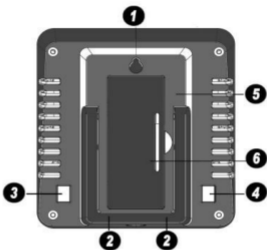

Figure 2
2. Remove the battery door on the back of the display, as shown in Figure 2. Insert one AA (alkaline, lithium or rechargeable)